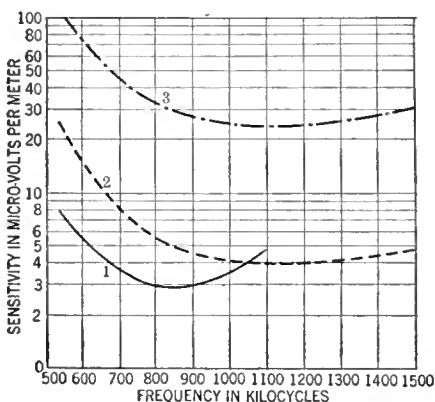

Fig. 5—Sensitivity curves of the Crosley receiver.
THE CURVES shown in Fig. 5 are the usual sensitivity curves plotted in microvolts per meter. The sensitivity on tap (3) was sacrificed to some extent to provide for an extreme selectivity. As shown previously, in the tuned antenna stage discussion, the combination of the characteristics of the three antenna taps makes the receiver adaptable to almost any receiving condition. A comparison of these curves with those shown in a previous article in the January, 1929, RADIO BROADCAST will show what an enormous improvement has been made in this receiver.